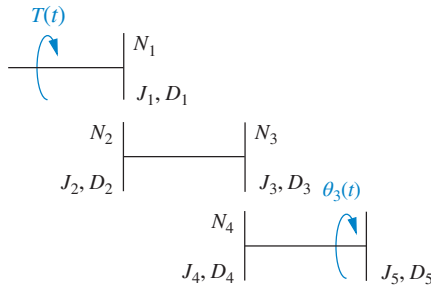

FIGURE P2.20
35. For the rotational mechanical system with gears shown in Figure P2.20, find the transfer function,  $G(s) = \theta_3(s)/T(s)$ . The gears have inertia and bearing friction as shown. [Section: 2.7]